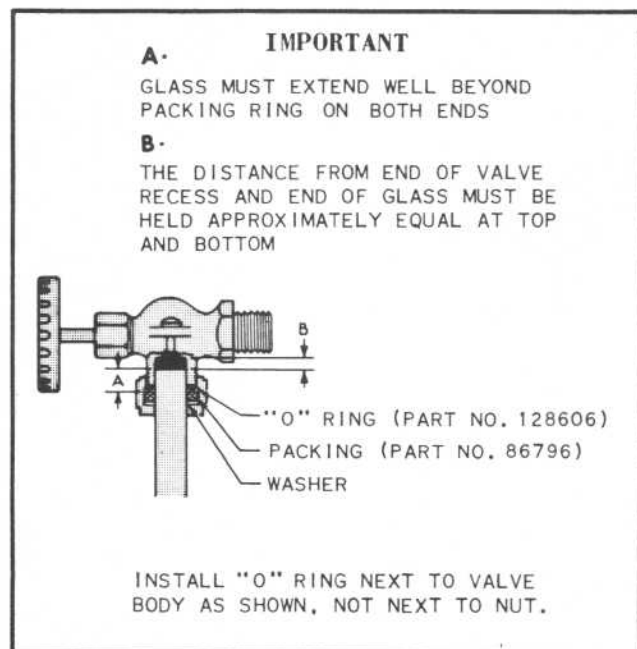

Figure 25 - Assembly of Steam Gauge Glass
4. Install gauge glass fittings into ends of tees and mount glass and guard rods. (See Figure 25 for method of assembling gauge glass).